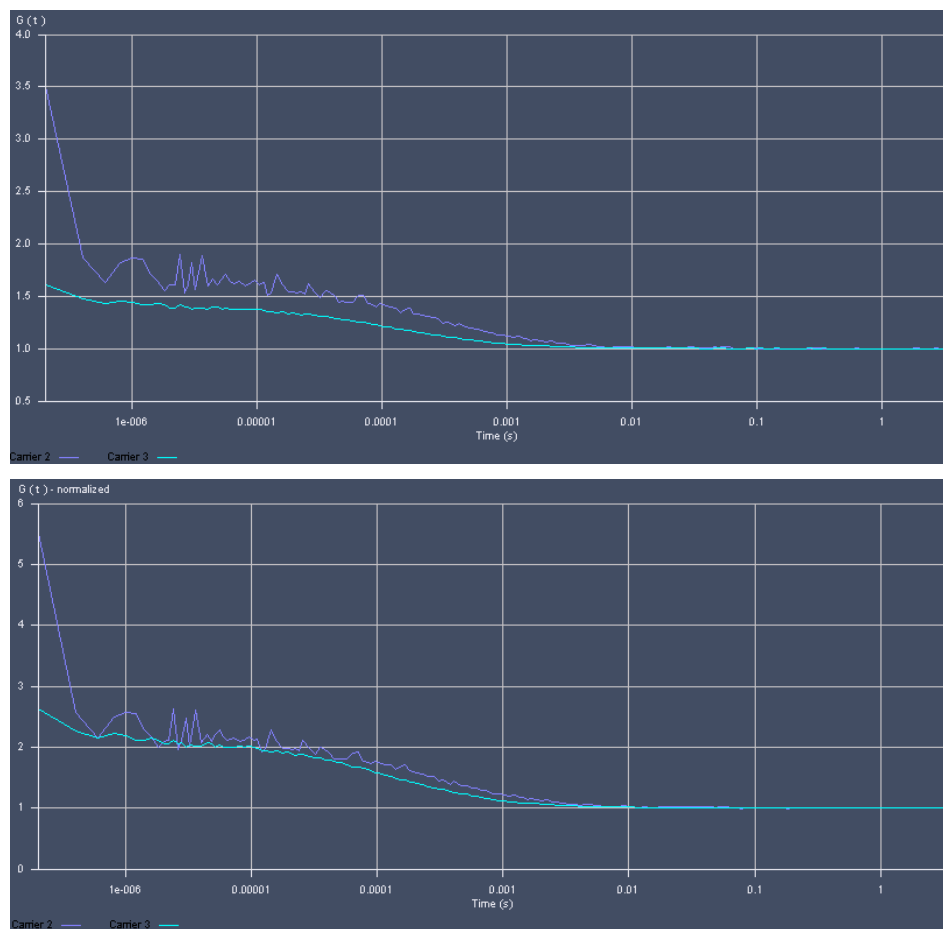

Fig. 9-90 The Correlation Curve window in normal (upper graph) and normalized (lower graph) display
- Selection of **Normalize** will normalize the curves to 2 (Fig. 9-90):